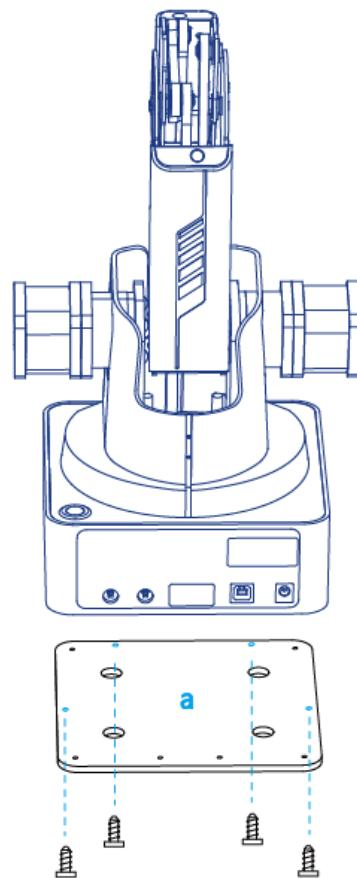

Figure 5.187 Fix plate a
Step 1 Mount Dobot Magician on the plate **a** with four M3*10 countersunk head cap screws (The counter bore of plate **a** is outwards), as shown in Figure 5.187.